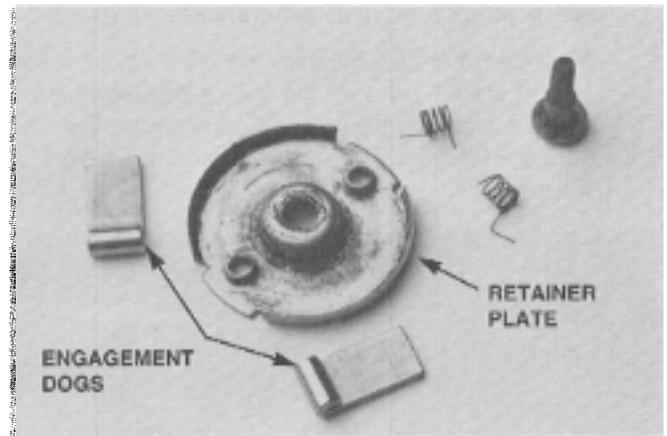

Figure 56
5. Remove the two starter engagement dogs and springs. Take note of the positioning of the springs for correct installation later. (**Figure 56**).